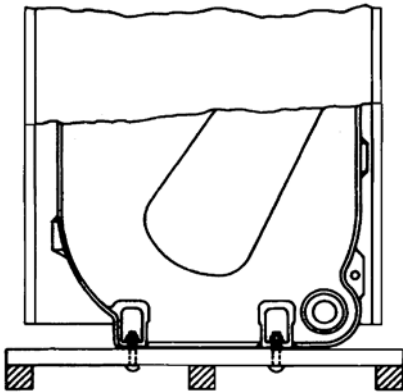

Figure 2: Removal of Boiler From Skid
1. Boiler is secured to base with 4 bolts, 2 on left side and 2 on right side, see Figure 2. Remove all bolts.